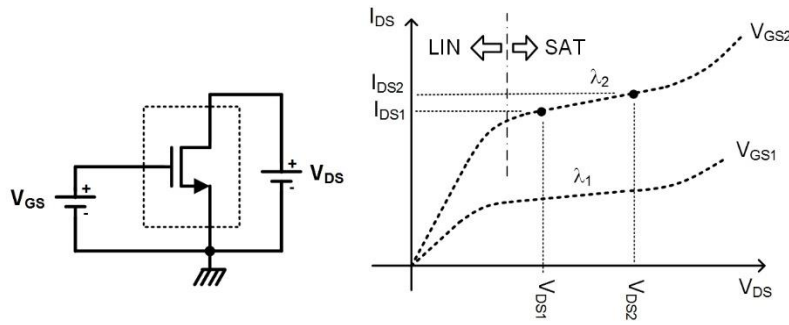
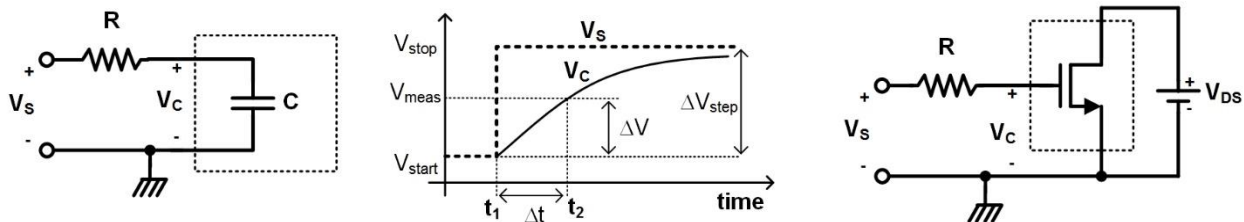

Figure 2. Setup for measuring lambda (λ) of a MOSFET for given V_{GS} voltage.
Figure 3. Measuring capacitance of an unknown capacitor.
Lambda (λ) parameter typically changes for applied V_{GS} voltage and could be calculated when transistor is in saturation region by measuring I_{DS} for given V_{DS} voltages as shown in Figure 2 and by using equation (2).
Almost all systems has certain amount of input impedance. MOSFETs are fundamentally capacitive devices at the input or gate side that is characterized as input capacitance of the MOSFET transistors. A simple RC circuit could be constructed with the MOSFET as shown in Figure 3. The unknown capacitor value (C) could be determined by applying a step input voltage ($\Delta V_{step} = V_{stop} - V_{start}$) through a known resistor (R) and measuring the capacitor voltage (V_C) in the linear region (i.e. 40-60% of ΔV_{step}). Then, the unknown capacitor value could be calculated using equation (3).
- c. Construct the circuit shown in Figure 2 in Cadence and simulate it. Set the V_{GS} voltage such that the MOSFET is biased 0.5V and 1V in the ON region (meaning set the overdrive voltage, $V_{OD1}=0.5V$ and $V_{OD2}=1V$). Change V_{DS} voltage between 0.01V and 3V with reasonable steps and have enough data point (>10) to extract λ parameter in SAT region of operation.
- d. Using the recorded data, determine the lambda (λ) parameter for the two biasing conditions using equation (2). Also estimate V_{DS} voltage range to keep the transistor in SAT region where the lambda is measured.
- e. Construct the circuit shown in Figure 3 in Cadence and simulate it. Apply a steep V_{GS} voltage through a 10M Ω resistor to the MOSFET. You can apply $V_{start}=0V$ to $V_{stop}=5V$ square wave pulse with 100ms period, 50ms pulse width, 1ns rise/fall time.
- a. Construct the circuit in Figure 2 on a prototype board using ZVN2106A. Make sure that you do not applied more than maximum rated V_{GS} or V_{DS} voltages the transistor anytime during measurement.
- a. Construct the circuit in Figure 3 on a prototype board using ZVN2106A and 10M Ω resistor. Measure the resistor value before connecting it in the circuit. Make sure that you do not applied more that maximum rated V_{GS} or V_{DS} voltages the transistor anytime during measurement.